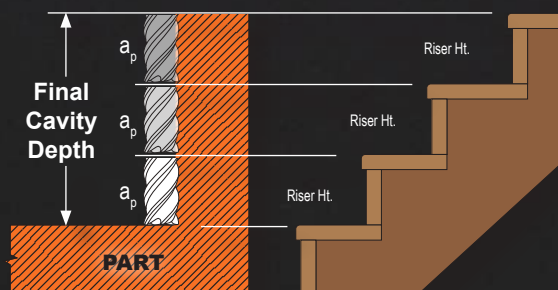

Fig. 3 - An example of reduced neck (RN) step down milling
With HEM roughing, we can safely use a length of cut (LOC) up to four times the diameter ( $4 \times D$ ). The same tool works for roughing and finishing without any issues. However, if a dynamically driven tool path (High Efficiency Machining, aka HEM) is not available, we recommend using a reduced neck tool (RN) in conjunction with the most precise tool holder, as shown in figure 3. Cut to an axial depth of 1.5 times the tool diameter ( $1.5 \times D$ ) while maintaining a considerable radial depth of cut ( $a_e$ ). This will guarantee maximum efficiency by controlling the metal removal rate (MRR) and simultaneously maximizing your productivity.